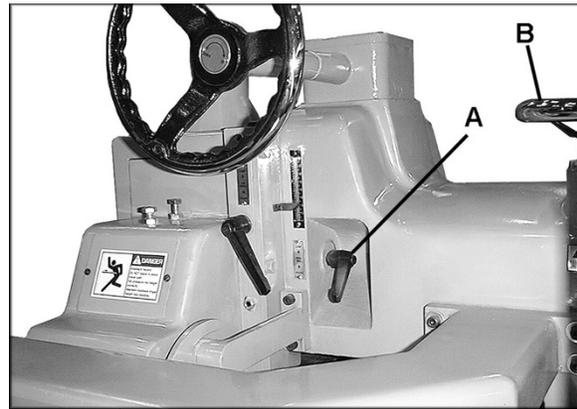

Figure 7
3. Loosen the arbor lock lever (A, Figure 7) and raise the arbor with the handwheel (B, Figure 7) until the blade can slip on to the arbor without interference from the caterpillar.